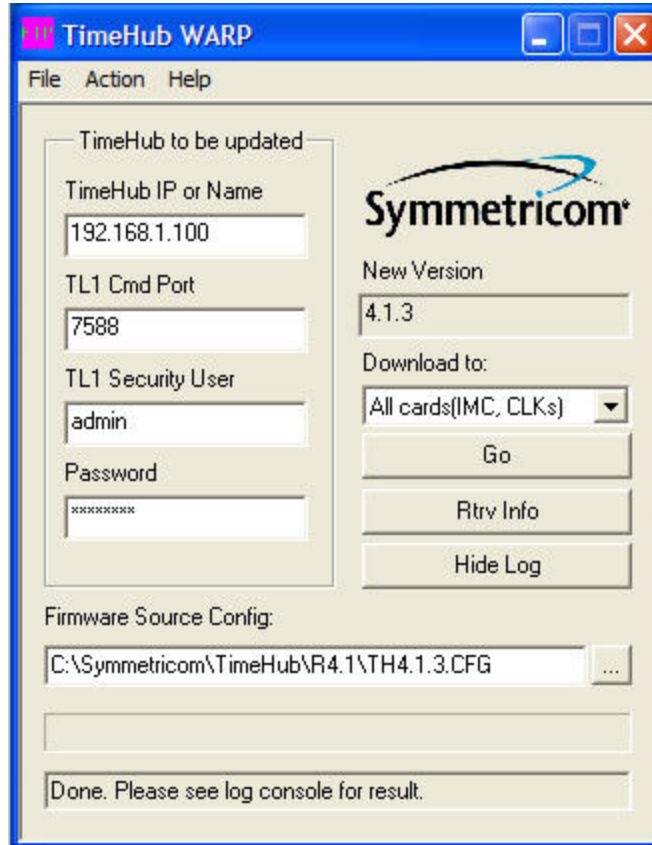

Figure 5-14. The TimeHub WARP Window
2. Start the TimeHub WARP application. The application window appears, as shown in Figure 5-14.